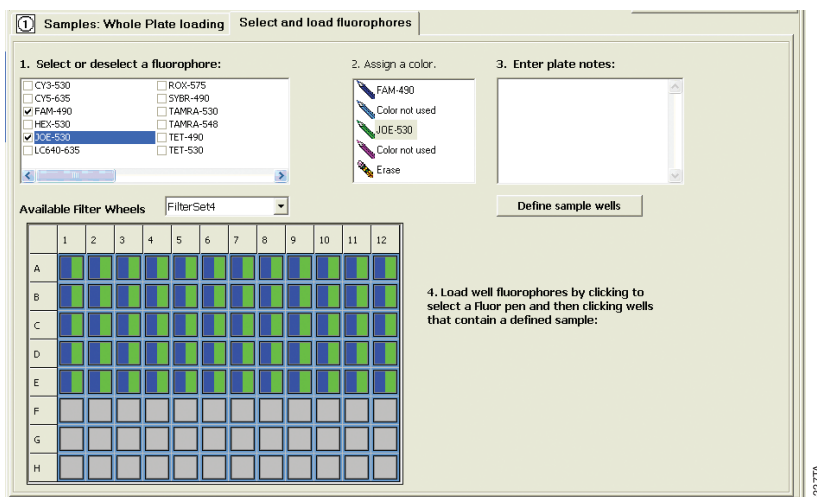

Figure 9. The “Select and load fluorophores” tab in the “Edit Plate Setup” window.
8. Select or deselect the dyes being used from the “Select and load fluorophore” panel. After each dye is selected, assign a different color from the four colors listed (Figure 9).